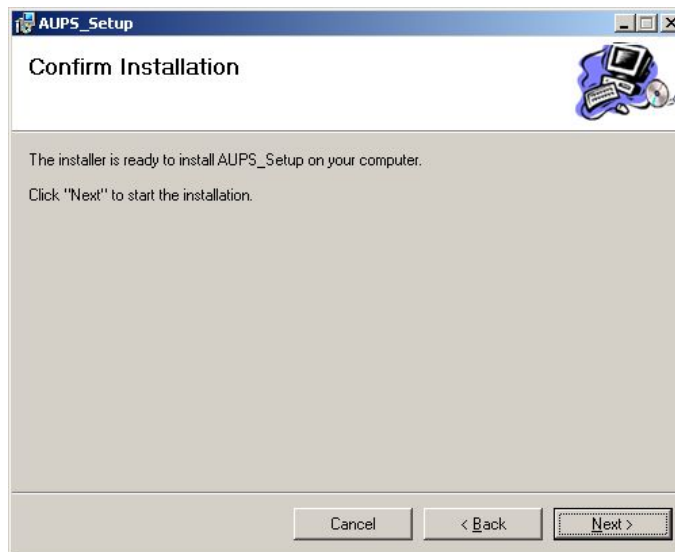

Figure 7-3: Ready to Install the Program
Step 4: Click **NEXT** and the Installshield Wizard is ready to install the program (**Figure 7-3**).